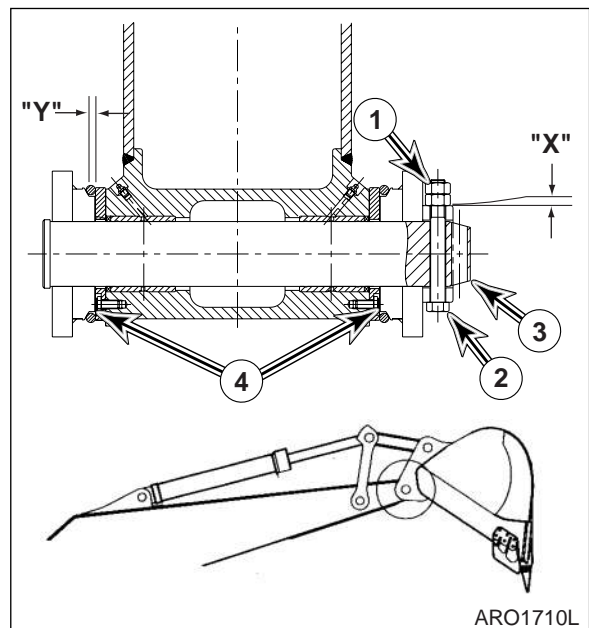

Figure 10
2. Force bucket to one side and check for end play (side-to-side) clearance under O-rings at attachment point. Total clearance should be 1 mm (0.04 in.) between side face of boss and inside edge of ear bushing (Y, Figure 10). Too tight a fit (less than 1 mm (0.04 in.)) can cause excessive wear while too much clearance may produce excessive noise and potentially hazardous slack control.
4. If an adjustment is required, remove two jam nuts (1, Figure 10) and bolt (2) from pin (3). Add or remove shims (4) as required. Use equal amount of shims on each side. Install bolt (2) and two jam nuts (1). Jam nuts must clear boss by 1 - 2 mm (0.04 - 0.08 in.) at point (X).